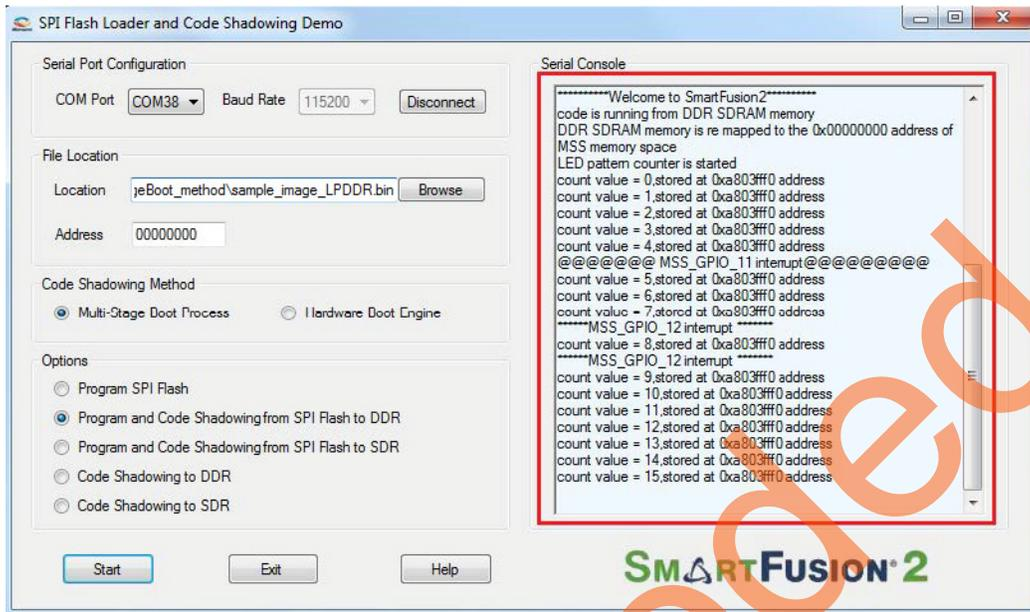
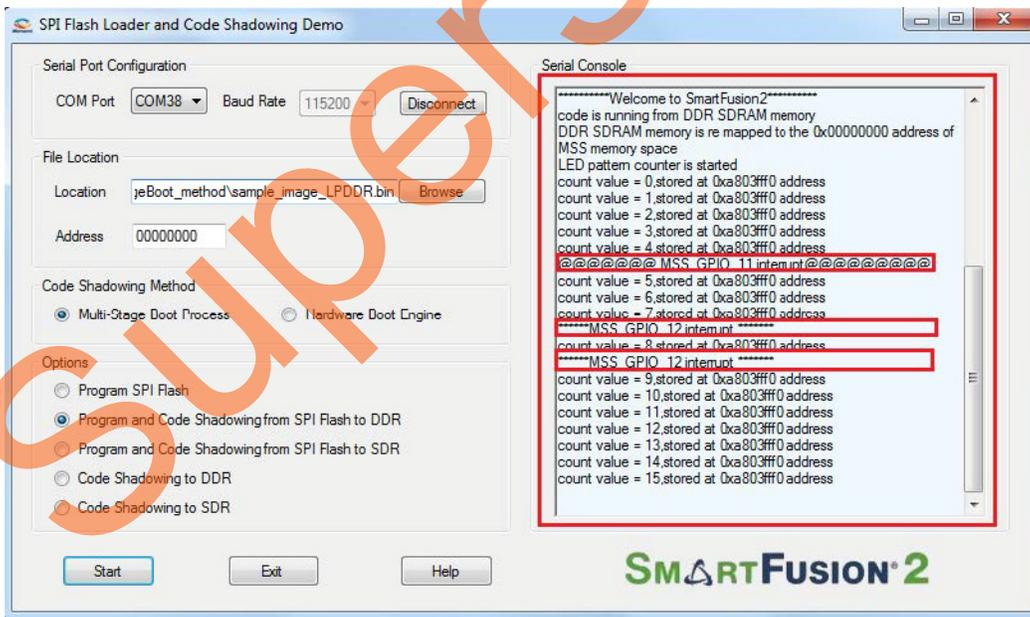

Figure 13 • Running the Target Application Image from DDR3 Memory
Figure 14 • Timer and Interrupt Messages in Serial Console
- On programming the SPI flash successfully, the bootloader running on SmartFusion2 SoC FPGA copies the application image from SPI flash to the DDR memory and boots the application image. If the provided image `sample_image_LPDDR.bin` is selected, the serial console shows the welcome messages, switch interrupt and timer interrupt messages as shown in Figure 13 on page 18 and Figure 14 on page 18. A running LED pattern is displayed on LED1 to LED8 on the SmartFusion2 Security Evaluation Kit.